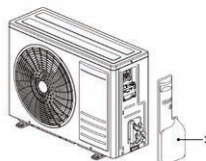

fig. 23 -
1. Remove the side panel (part 1 - "fig. 23 -").